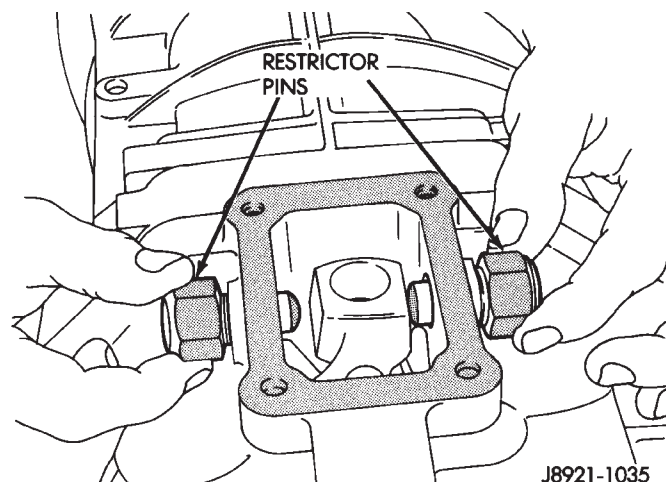

Fig. 23 Shift Arm Restrictor Pins
- (11) Remove shift arm restrictor pins (Fig. 23).